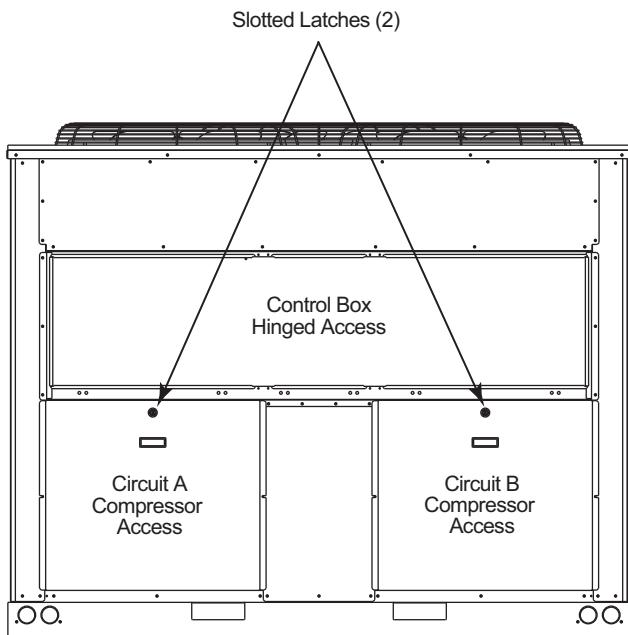

Fig. 2 — Two Compressor Access Panels Each with One Latch — 38RCD040-060 and 30RC035-060
- b. The 38RCD040-060 and 30RC035-060 units have 2 compressor access panels with one latch at the top of each panel. See Fig. 2.